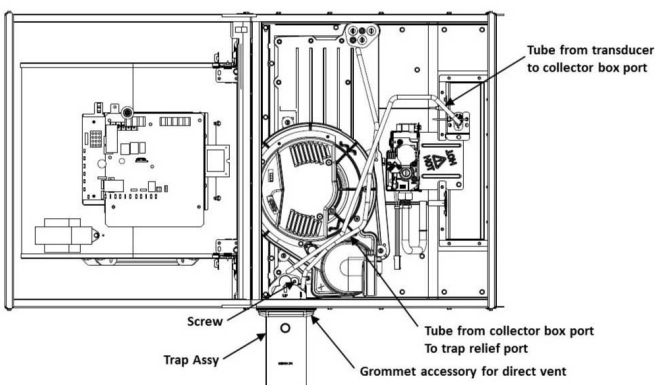

Fig. 20 – Horizontal Right - Trap Assembly Aid
1. Accessory Horizontal Installation Kit (trap grommet) is required for all direct-vent horizontal installations (only). The kit contains a rubber casing grommet designed to seal between the furnace casing and the condensate trap. (see Fig. 20).
5. Attach trap to collector box using provided 3/8" (9.5 mm) machine screw (Fig. 20).
- b. Remove the factory-installed cap from the relief port on the trap and run tube from port on the collector box corner opposite of the trap to the relief port on the trap (see Fig. 20). If the tube is too long, cut any extra length from the tube. In the installed position, the transducer tubing should be in the lower pressure port and the relief tubing should be in the higher port.